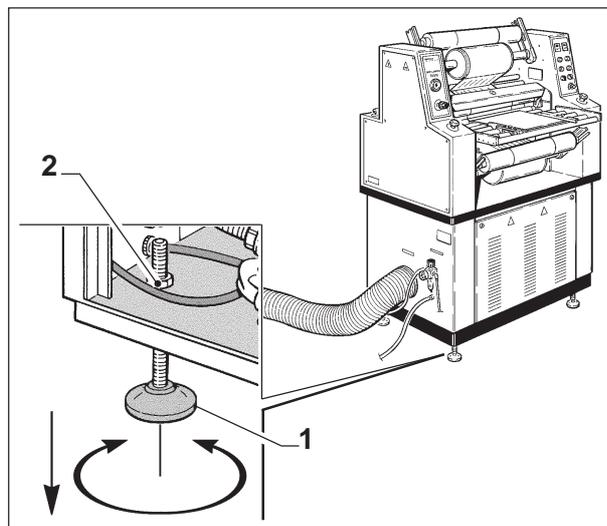

Fig. 3 - ML 360/N HEIGHT ADJUSTMENT
1.5.B - Machine positioning and levelling (Fig. 3).